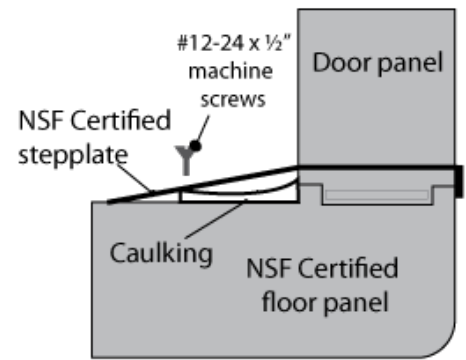

Figure 11
- F. When all walls and ceiling panels are in place, lock all vertical panels to floor panels. Door sections are held down through the threshold plate. Drill through thresholds' pre-drilled holes into floor. Secure to floor with screws provided. See Figure 11.